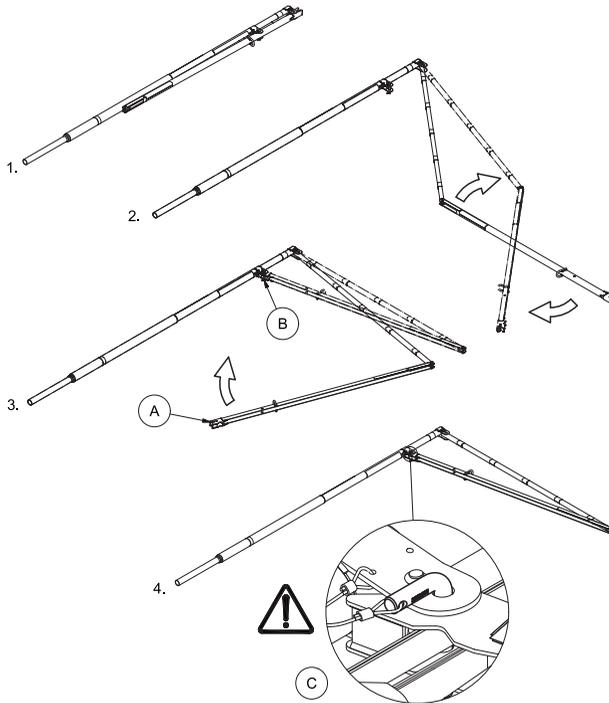

Figure 27. *Assembly process of the SkyReach Anchor on the ground.*
1. Mount the SkyReach Anchor in four easy steps, please see Figure 27.